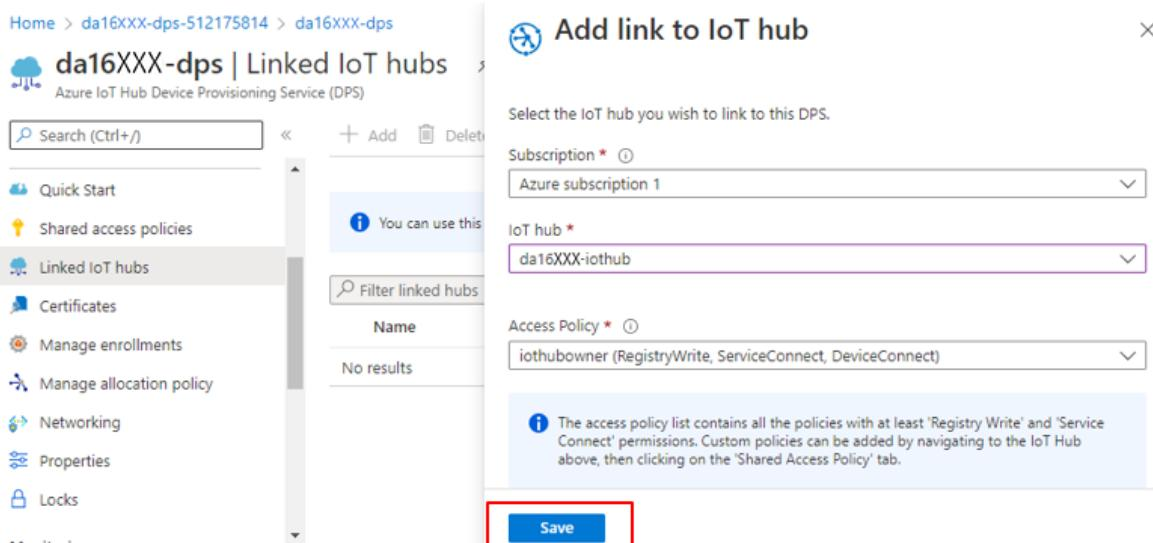

Figure 93: Configure Link
- Under **Add link to IoT hub** section, select the **IoT hub** and **Access Policy** as shown in **Figure 93**, and click **Save**.